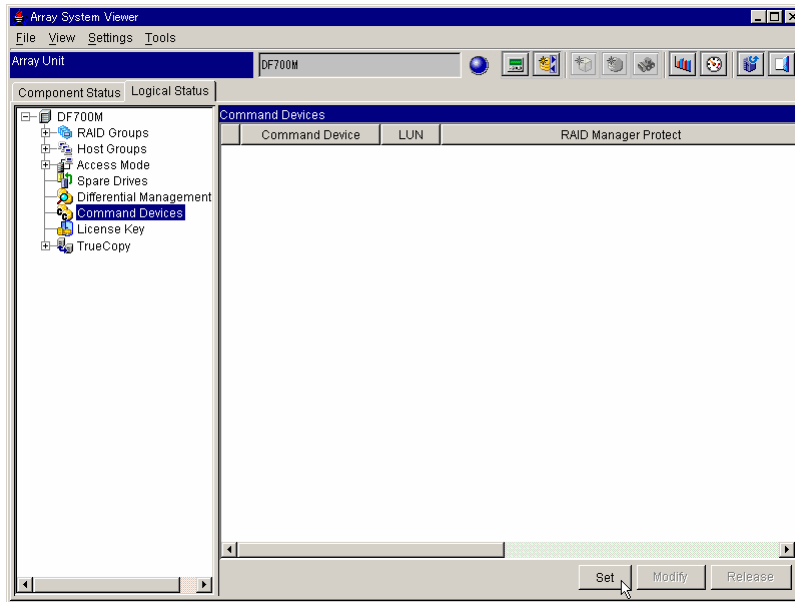

Figure 3.8 Array System Viewer Window (Command Device Page: Before Setting)
4. Select the **License Key** icon (see Figure 3.8).